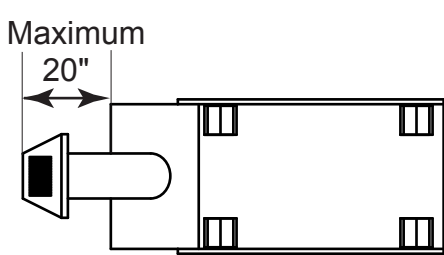
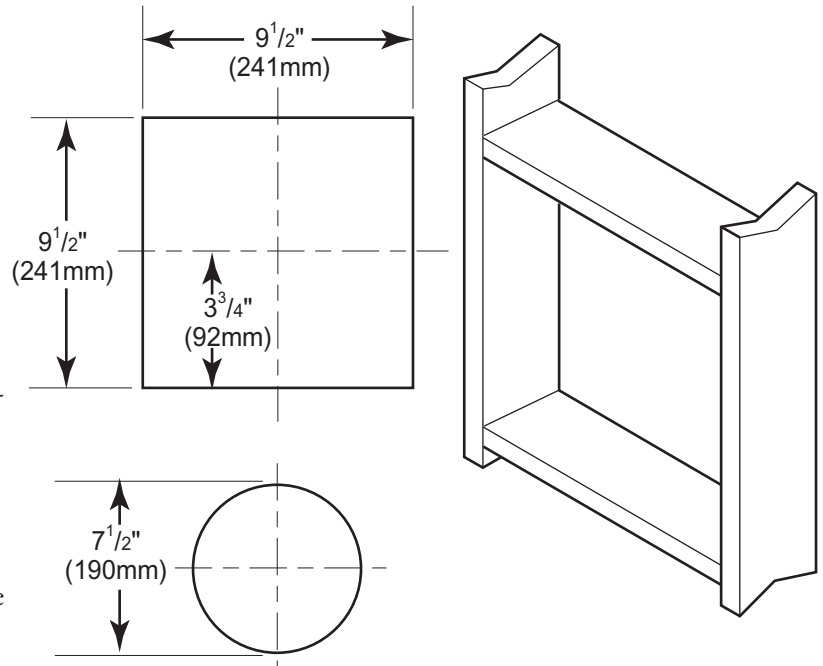

Figure 11 - Rear Vent Application, Maximum Horizontal Distance
Figure 12 - Vent Opening Requirements
- The maximum horizontal distance between the rear of the appliance and the outside of termination is 20" (508 mm). See Figure 11.
1. Locate and cut the vent opening in the wall. For combustible walls first frame in opening. See Figure 11.
Combustible Walls: Cut a 9 1/2" H x 9 1/2" W (241mm x 241mm) hole through the exterior wall and frame as shown. See Figure 12.
3. Attach vent pipe assembly to the fireplace. Set fireplace in front of its permanent location to insure minimum clearances. Mark the wall for a 9 1/2" H x 9 1/2" W (241mm x 241mm) square hole (for noncombustible material such as masonry block or concrete, a 7 1/2" [190mm] diameter hole is acceptable). See Figure 11. The center of the hole should line up with the center line of the horizontal rigid vent pipe end. Be sure to allow for minimum rise. Cut a 9 1/2" x 9 1/2" (241mm X 241mm) square hole through combustible exterior wall (7 1/2" [190mm] diameter hole if noncombustible). Frame as necessary. Allow 1/4" minimum rise per foot. See Figure 12.
1. Establish vent hole through the wall. *See Figure 12, page 17.*